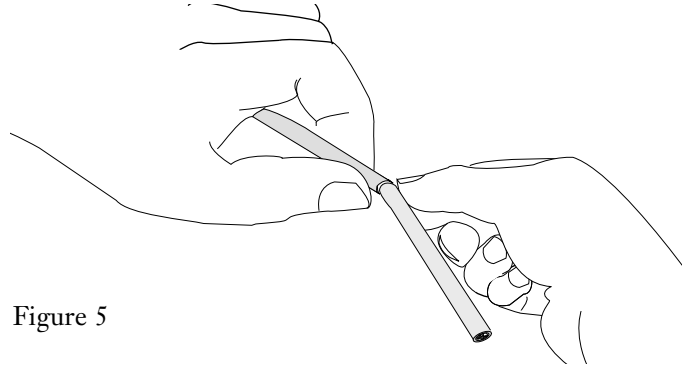

Figure 5
- Carefully flex the cable sheath to break it at the score point (Figure 5). Slide the severed section of sheath off the sub-units.